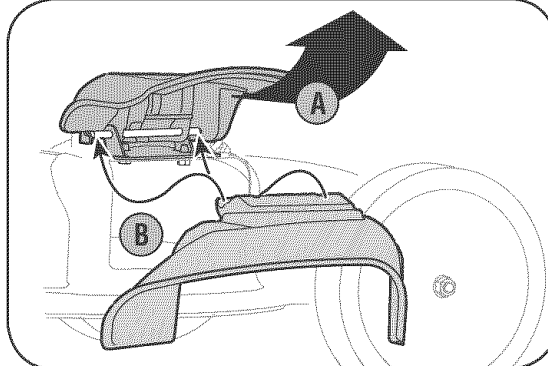

Figure 3-7: Lift mulch plug and install side discharge chute.
- On the side of the mower, lift the mulching plug, Figure 3-7.